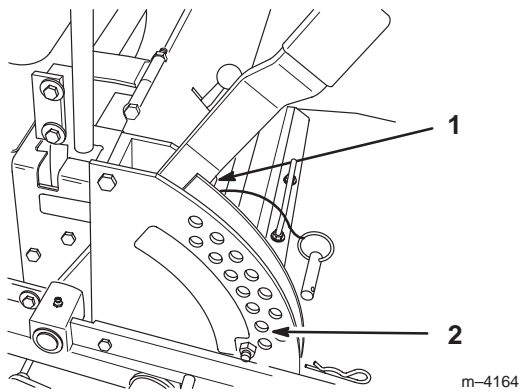

Figure 60
4. Raise the deck to the transport position and take all force off of the two large deck lift springs by loosening the nut in front of each spring (Fig. 60).
5. Place 2 thick blocks (1-1/2 inches [38 mm]) under the rear left and right lower edge of the mower. Place 1 block (2-1/4 inches [57 mm]) under the front center lower edge of the mower. Lower the mower to the 2 inch (51 mm) height-of-cut position (Fig. 60).
13. Raise the deck lift lever to the transport position (Fig. 60).